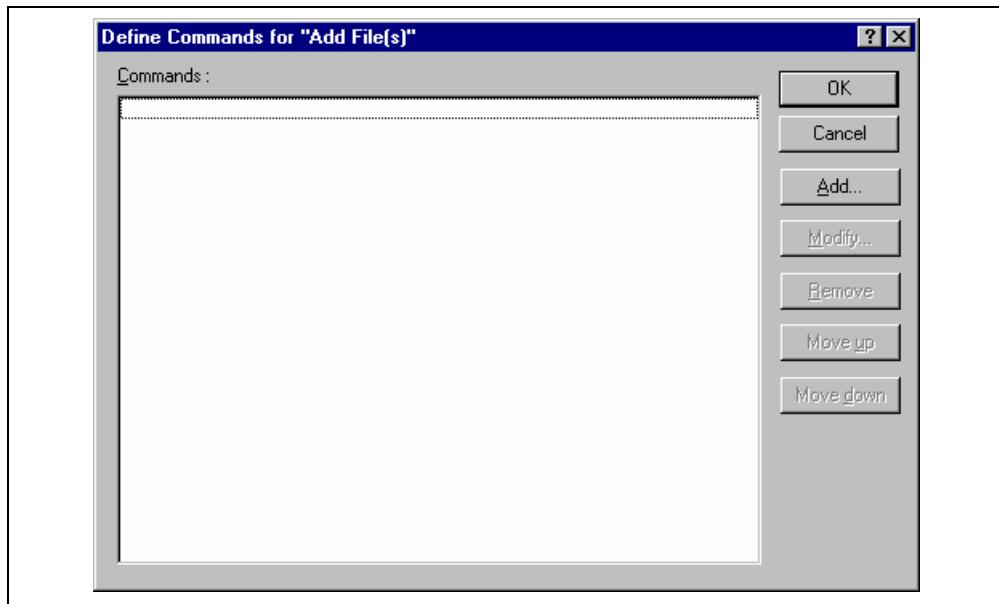
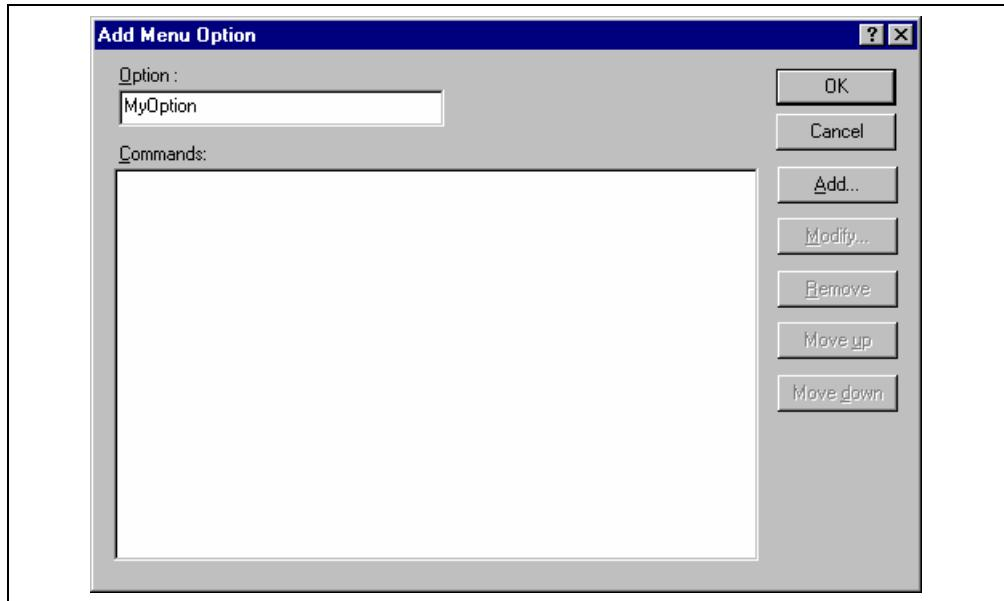
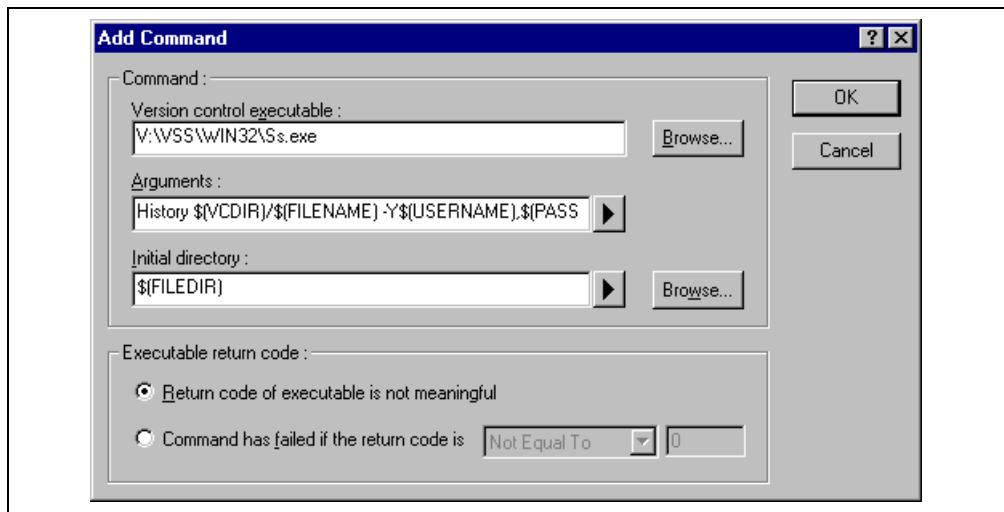

Figure 8.3: Modify System Menu Option (Example)
Figure 8.4: Add Menu Option Dialog
Figure 8.5: Add/Modify Command Dialog
2. Select the option to be modified from the “System menu options and toolbar buttons” list and then click the “Modify...” button. The dialog shown in figure 8.3 will be displayed. This figure shows a dialog when “Add File(s)” has been selected for example.
- Click the “Add..” button. The dialog shown in figure 8.4 will be displayed.
2. Select the menu option to be modified from the “User menu options” list and then click the “Modify...” button beside the list. The dialog shown in figure 8.4 will be displayed. (The title of the dialog is “Modify Menu Option”.)
Commands are defined when the “Add...” or “Modify...” buttons are clicked on the dialogs shown in figure 8.3 and figure 8.4. In either case, the dialog shown in figure 8.5 is invoked.